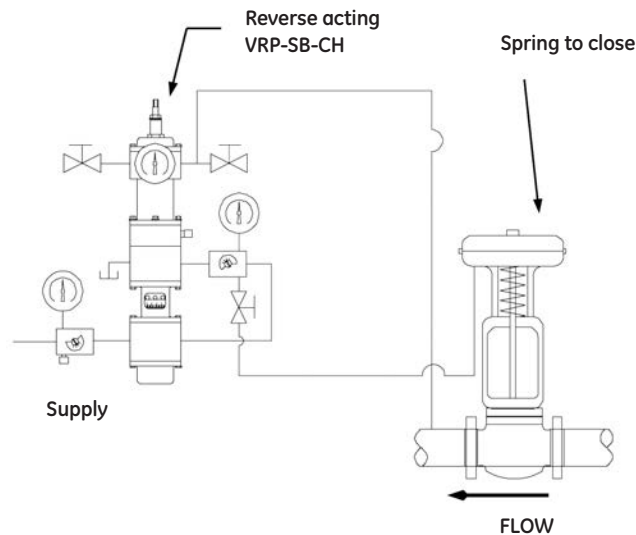

Figure 6
Step 6a: Turn the adjusting screw clockwise until the output gauge just drops off. (Refer to Figure 6)